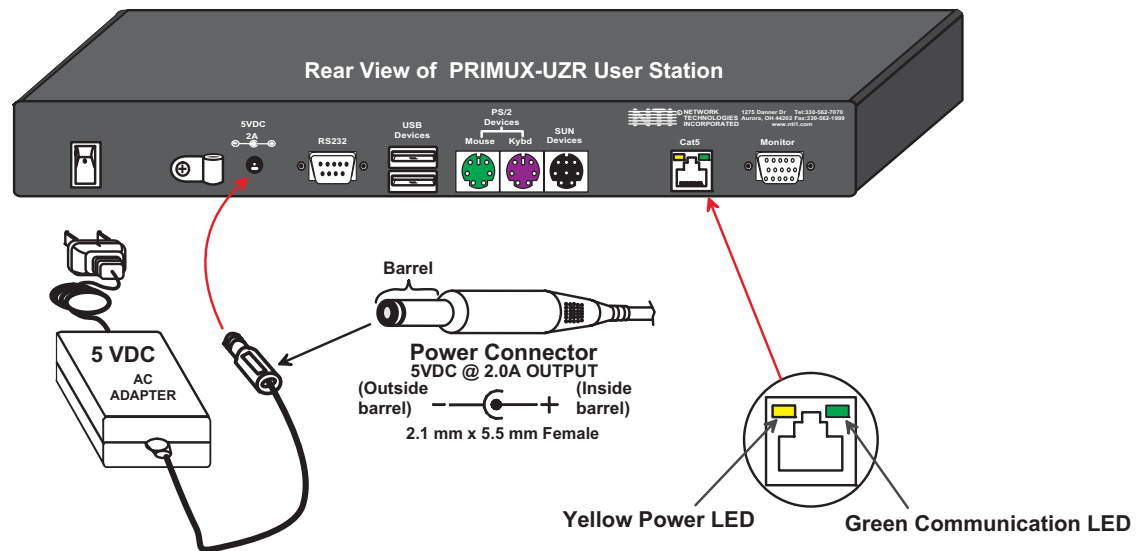

Figure 9- Connect the AC adapter to the User Station
1. Connect the AC adapter power connector to the 5VDC port on the User Station (see Fig. 9). Plug the AC adapter into a power outlet. The yellow LED on the RJ45 connector of the User Station should illuminate, indicating that a proper power connection has been made to it.
FYI: The green LED on each RJ45 connector will illuminate anytime data traffic is passing between the Host Adapter and User Station, indicating proper CAT5 cable connection and communication. (See Fig. 9)